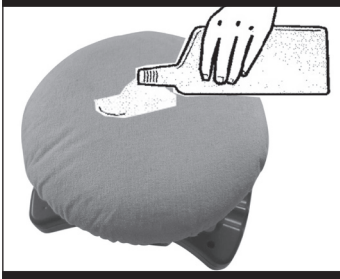

Fig 3
2.SPREAD THE POLISH (see Fig3)